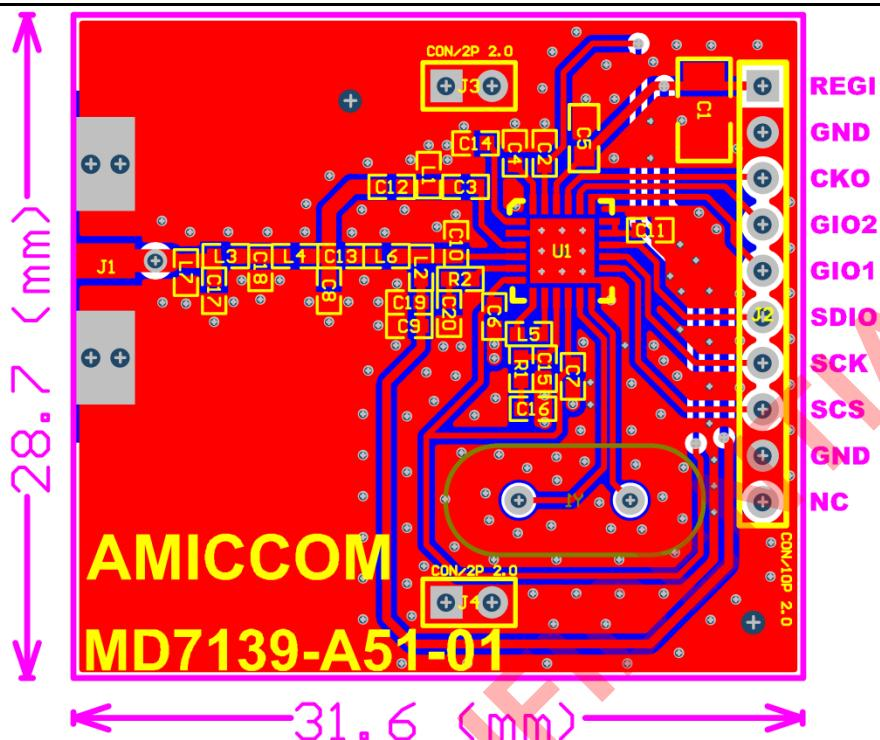

Fig. 2.1f Layout of MD7139-A51
3. In addition to ground plane, the clean and stable VDD source is also a key factor to impact RF performance. The bypass capacitor (C2, C4, C5, C6, C7, C11 and C20) on this reference design is used for this purpose. To have the clean VDD source to A7139, those capacitors should be placed as close to the IC pins as possible and its ground via should be just nearby the components ground pad. Please refer to Fig. 2.1f.
4. C15, C16 are PLL loop filter capacity. These capacitors (C15 and C16) should be correct and be close to IC pin 9 to for good PLL performance. Please refer to Fig. 2.1f.